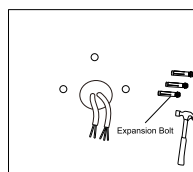

Figure 5
2. Insert expansion screws into the holes by hammer and take off the nut washer (Figure 5);